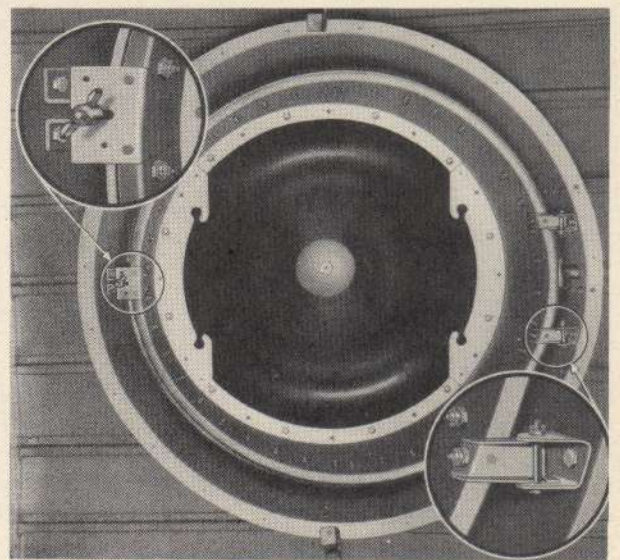

Figure 31—Navigator's Dome (Astrodome)
f. **ASTRODOME.**—The astrodome (see figure 31), located in the top of the fuselage in the bombardier-navigator's compartment, may be removed by loosening the latch aft of it, then pulling downward on the astrodome and lifting it off the hinge points. This emergency exit is used only, when the airplane is on the ground, in the event of a crash landing, or a forced descent on water, and only when the engines are stopped. This exit is for extreme emergencies only, as there should be no one forward of the flight compartment during a crash landing or forced descent on water (DITCHING).